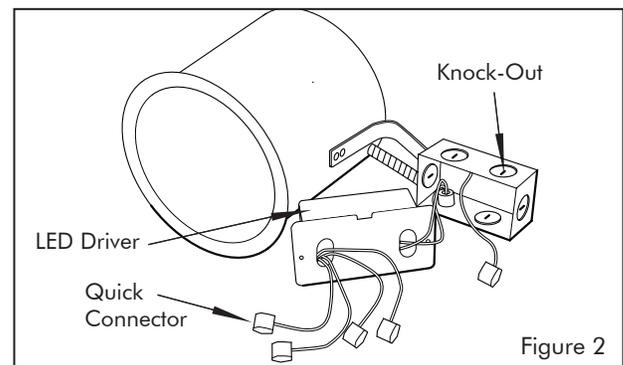

Figure 2
6. Remove junction box cover. Remove the appropriate knock-outs to accommodate the type of electrical supply being used (see figure 2).